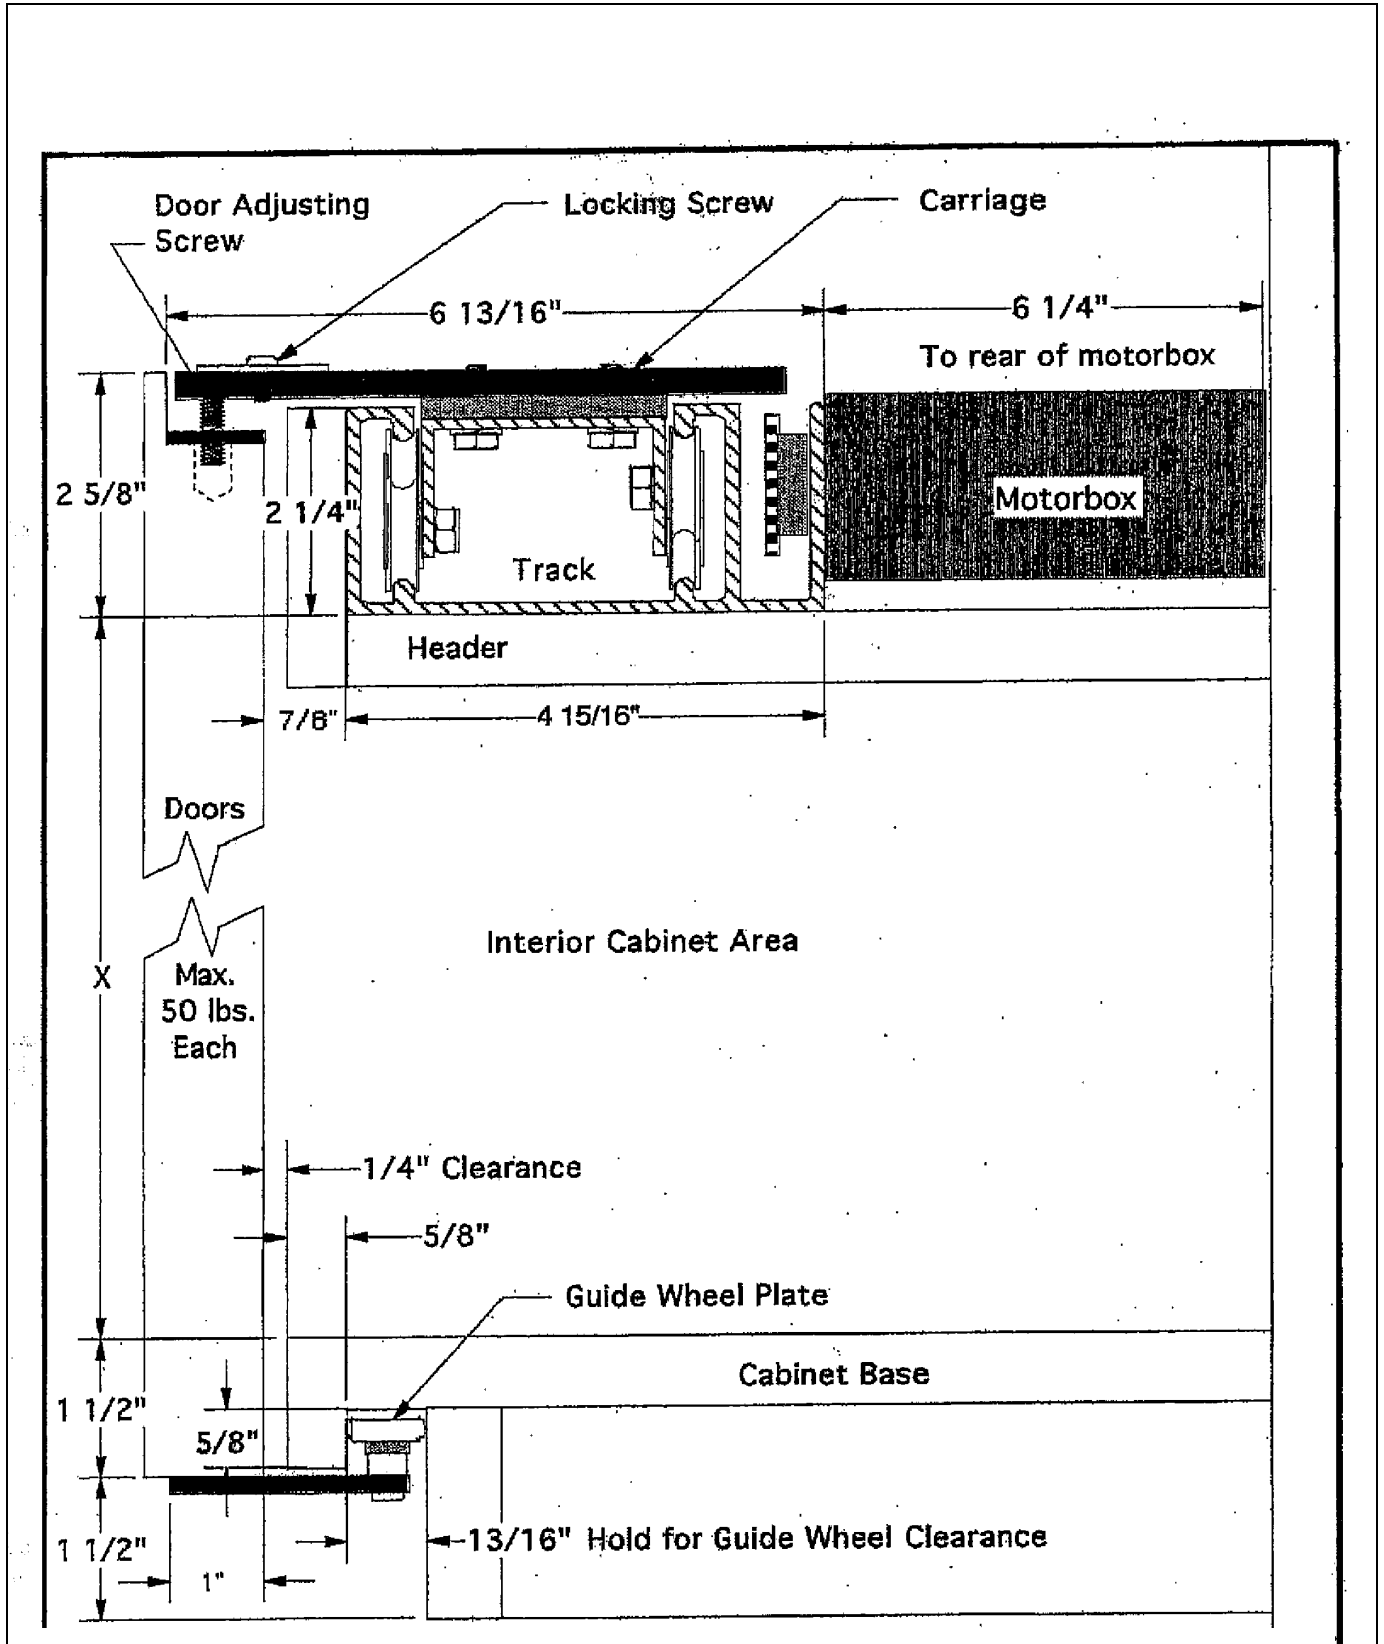

Figure 1
1. Place mechanism (A) on top of cabinet. (See Figure 1)